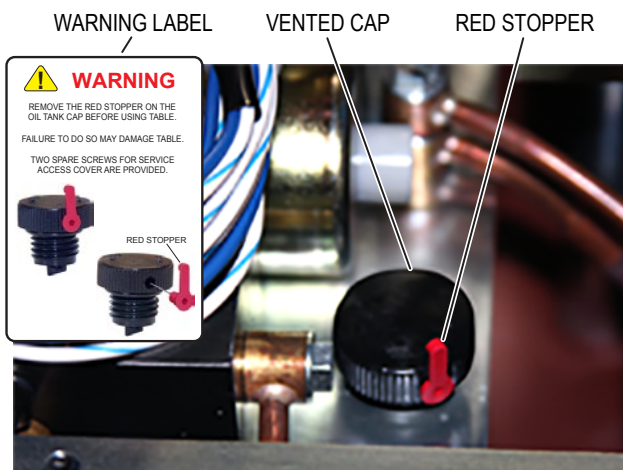

Figure 6. Vented Oil Filler Cap
11. If the oil reservoir has a black oil filler cap with a red stopper, remove the red stopper from the vented oil filler cap (Figure 6).
- Remove the vented oil filler cap from the oil reservoir. (See Figure 6.)